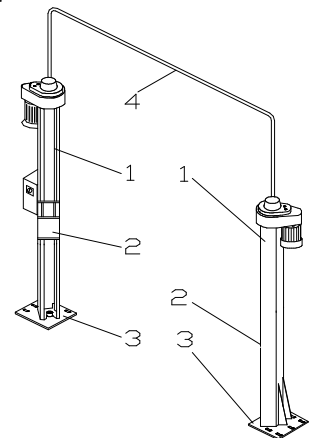

Fig.2
4. BESCHRIJVING HEFBRUG (Fig. 2)